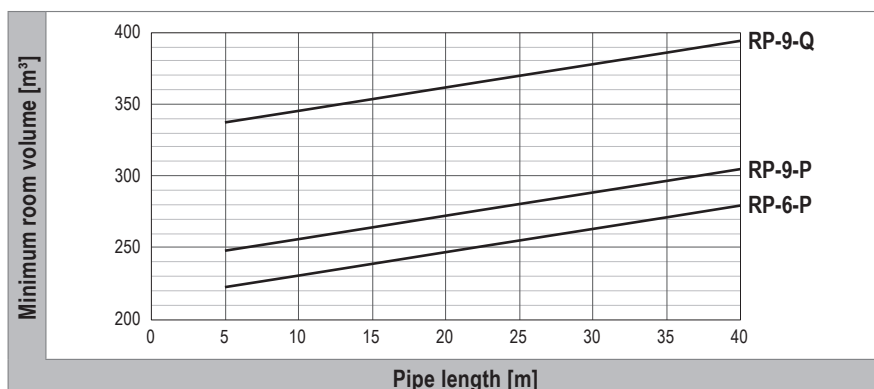

Fig. 3: Minimum room volume depending on the total refrigerant charge in accordance with EN 378
- The room volume corresponds to the minimum values shown in Fig. 3 meaning that the permissible QLMV value is not exceeded.